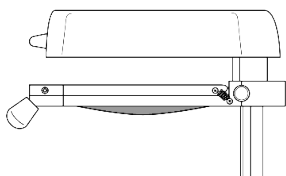
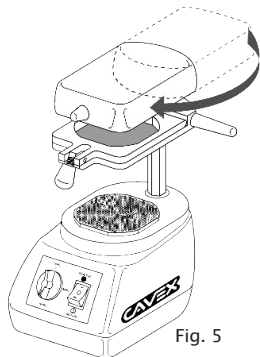

Fig. 6
Fig. 5
- Swivel the heating element over the frame with the deep-draw sheet (fig. 5). Preheat the sheet until it hangs down by 2 to 3 centimetres (fig. 6)